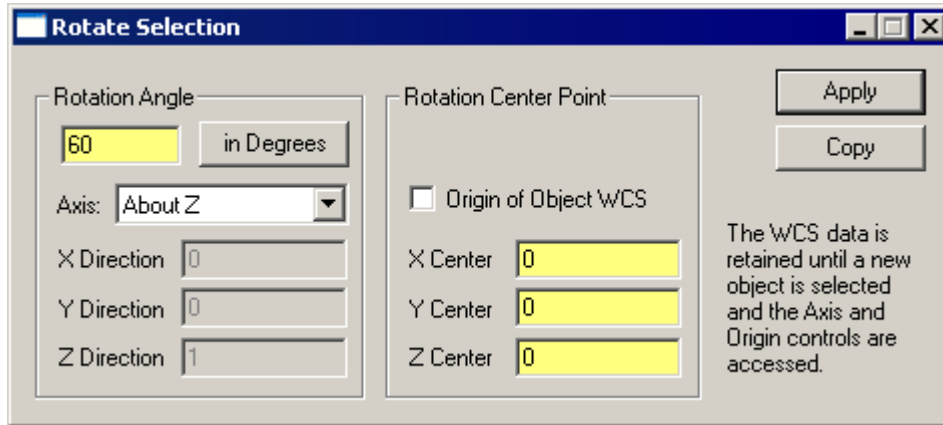

FIGURE 9.44 - Rotate Selection Dialog
- 15. Enter 60 for Rotation Angle and change the Axis to About Z. See Figure 9.44.